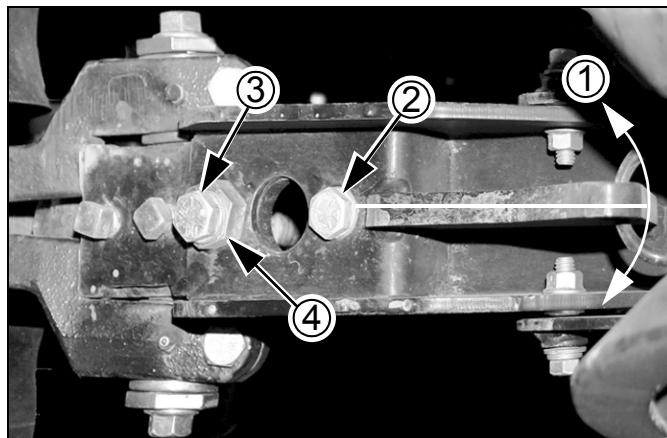

Figure 74
3. Centering (see Figure 74 on page 67)
Refer to Figure 74